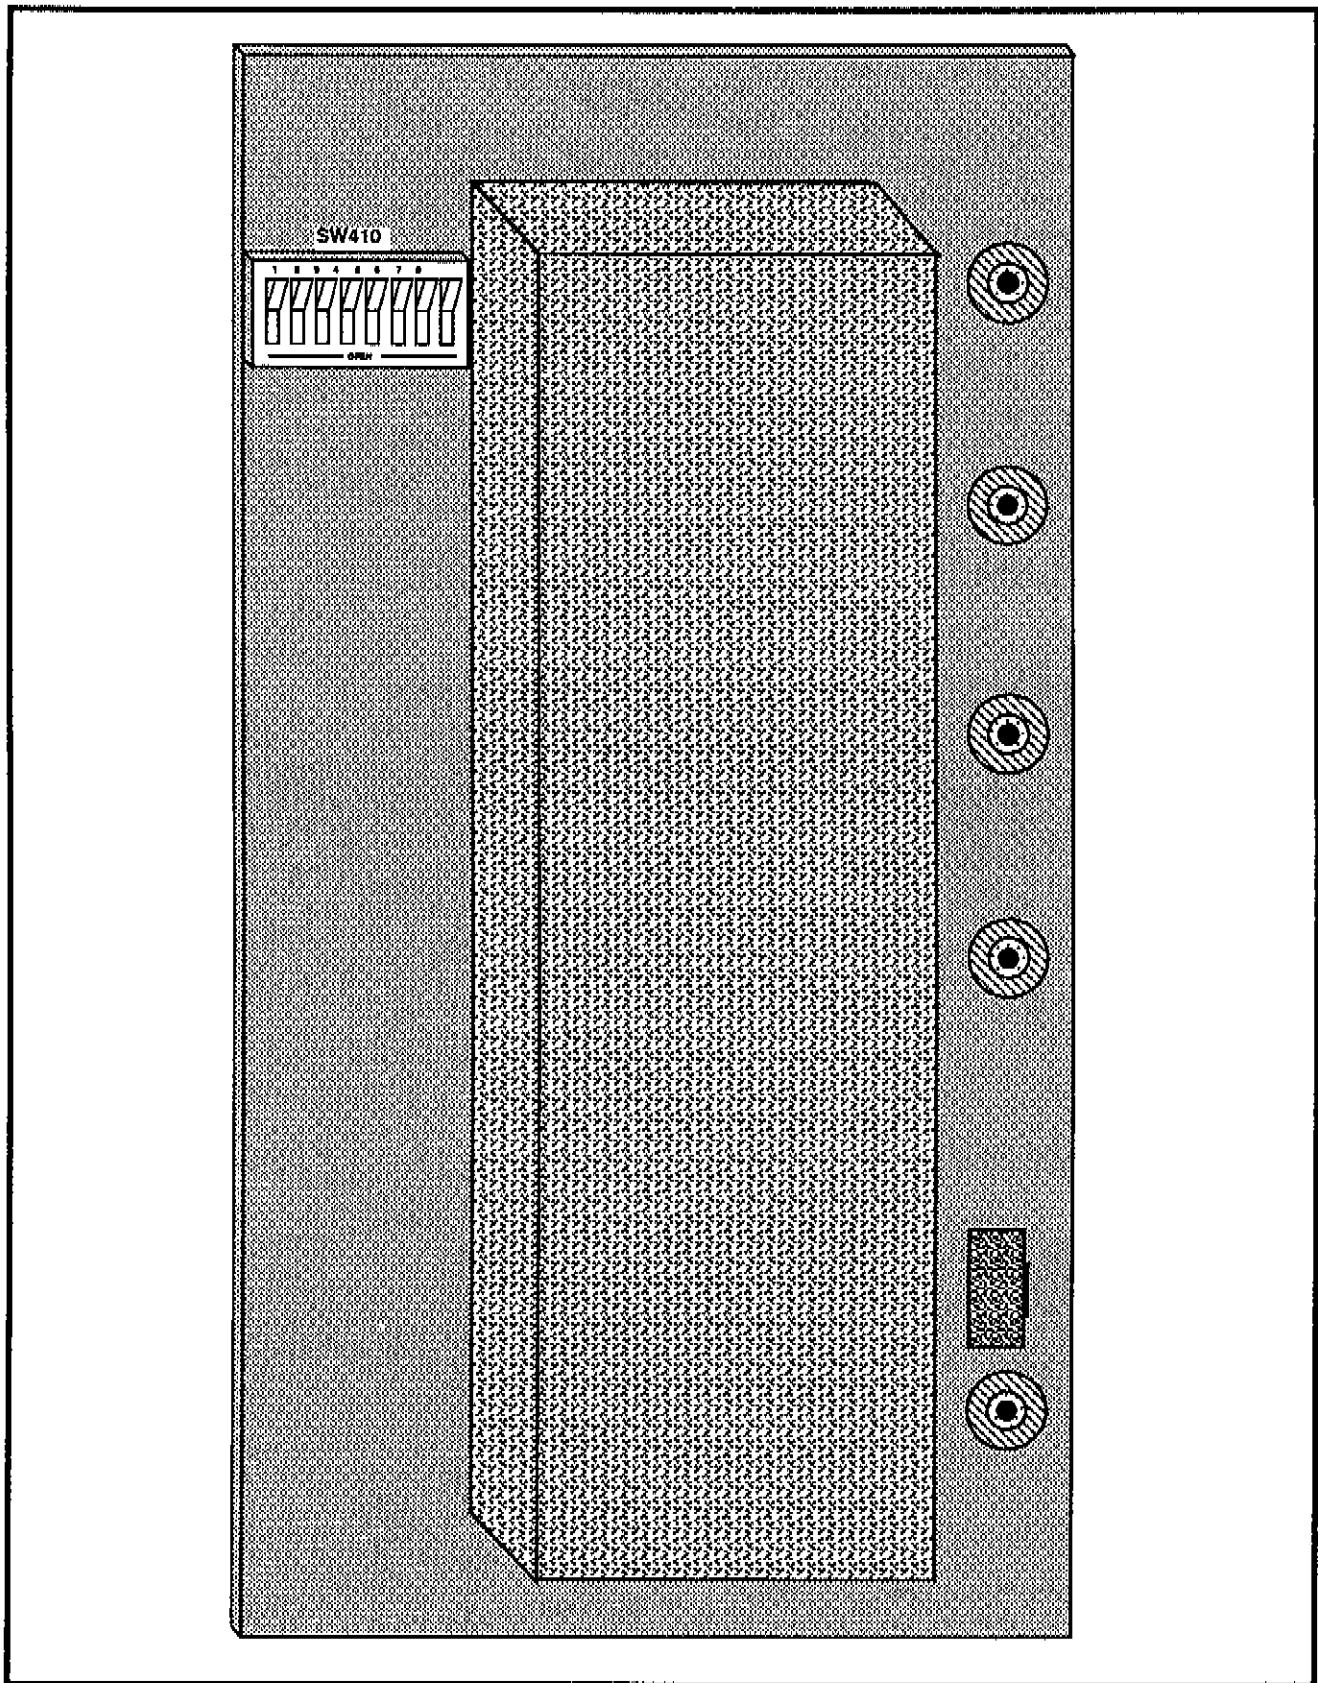

Figure 4-14. SW410 on the Reference Oscillator board.
v. Set SW410 (Figure 4-14) switches on the Reference Oscillator board for the frequency difference noted in part iv. The frequency difference is set by opening equivalent switches in SW410 for the desired value. See Table 4-3.